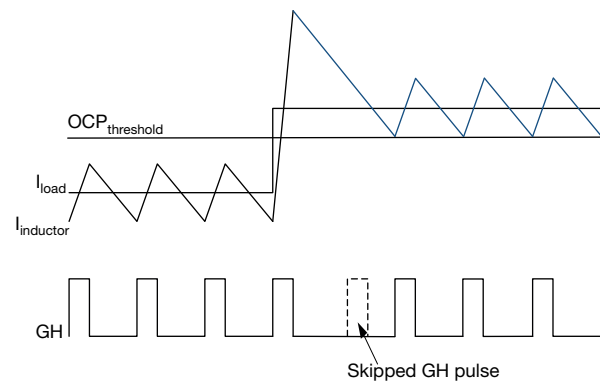

Fig. 7 - Over-Current Protection Illustration
SiC454 has pulse-by-pulse overcurrent (OC) limit control. The inductor valley current is monitored during low-side (LS) FET turn-on period through $R_{DS(on)}$ sensing. After a pre-defined blanking time, the valley current is compared with an internal OCP threshold named $I_{OUT_OC_FAULT_LIMIT}$, which can be programmed via PMBus. Once monitored valley current is larger than $I_{OUT_OC_FAULT_LIMIT}$, a pulse-by-pulse over-current limit is broken, high-side (HS) turn-on pulse is skipped and LS FET is kept on until the inductor valley current returns below OCP limit as illustrated by Fig. 7.